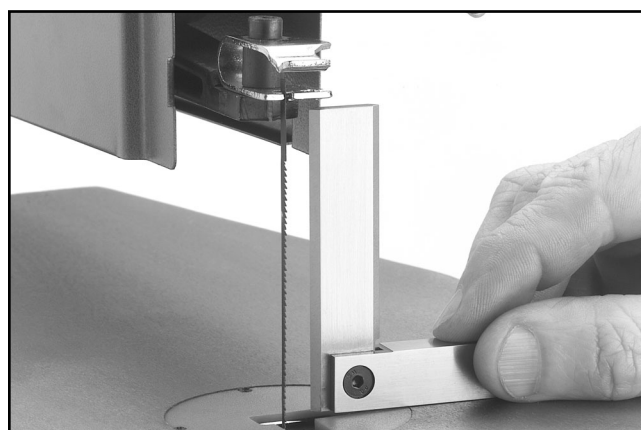

Figure 18. Check the angle with a square
3. Place a square on the table and against the blade as shown in **Figure 18**.